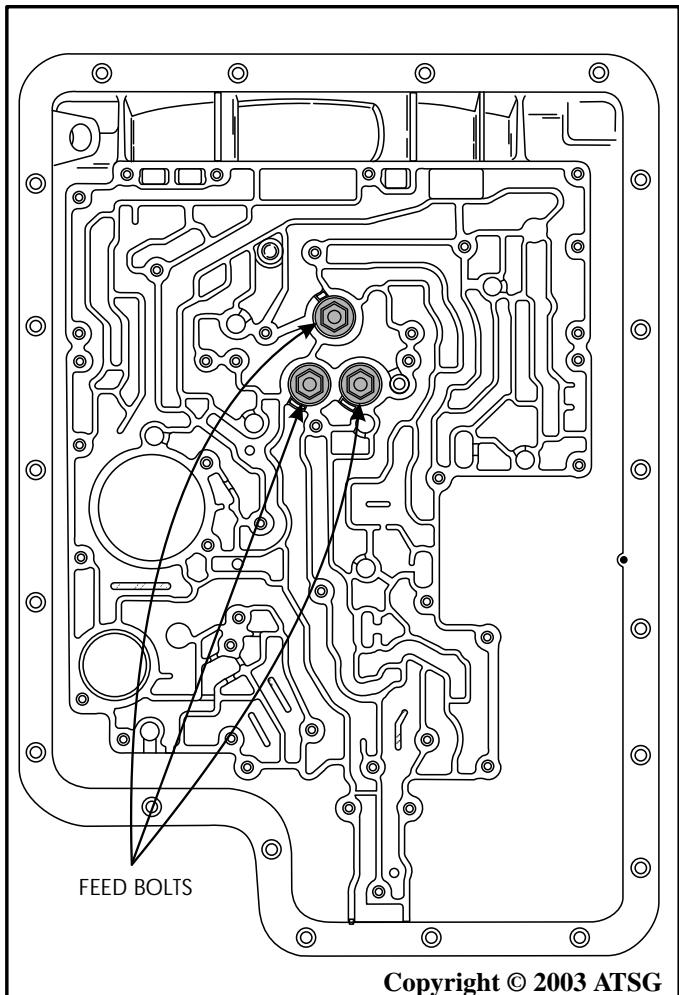

Figure 56
18. Remove and discard the 3 support feed bolts, as shown in Figure 56.